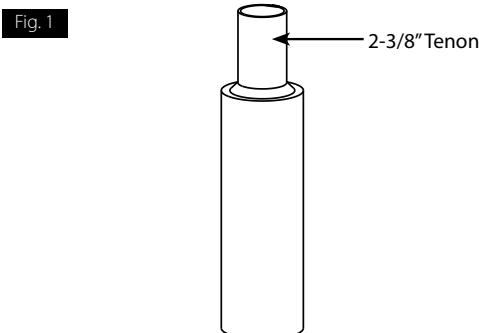

Fig. 2
2. Remove **Fixture Cover** by loosening **Locking Screw** with a **5/16" Hex Wrench** as shown in Fig. 2. **Fixture Cover** is equipped with a **Hook** to aid with hands free installation (Fig. 2, 3).